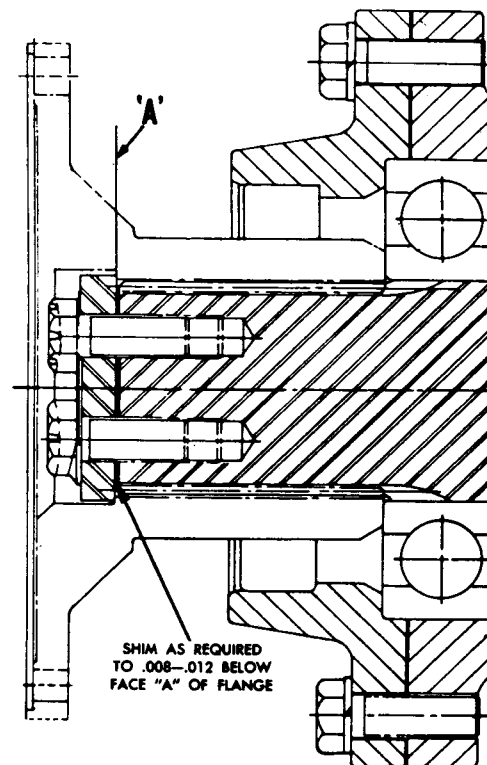

Fig. 4-7. Measurement to determine flange shim thickness
(5) Install the flange retaining nut, or washer and bolts to draw the flange down into final position. If bolts are used, remove them and install the lockstrip (and shims, if used). The shim pack thickness can be determined as illustrated in figure 4-7.
(6) Shims are available in two thicknesses (0.005 and 0.025). Use the proper combination of shims to allow 0.008 to 0.012 inch between face A (fig. 4-7) and surface of the shim pack.
(7) After the assembly has cooled, it is good practice to check the bolt torque and, if necessary, retorque to 96 to 115 pound feet. If the flange is retained by a nut, check it for 700 to 1000 pound feet torque.